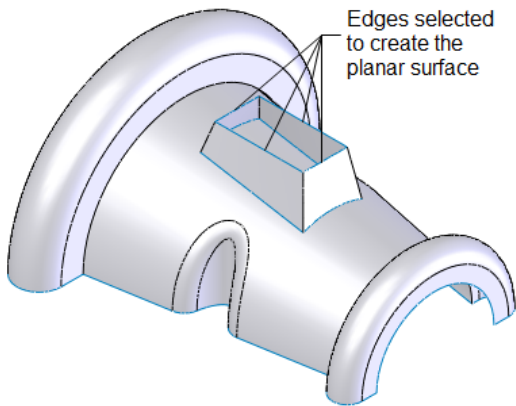

Figure 1-132 Edges selected to create the planar surface
2. Select the edges, as shown in Figure 1-132, to create the planar surface; the names of the selected edges are displayed in the **Bounding Entities** selection box of the **Planar Surface PropertyManager**.